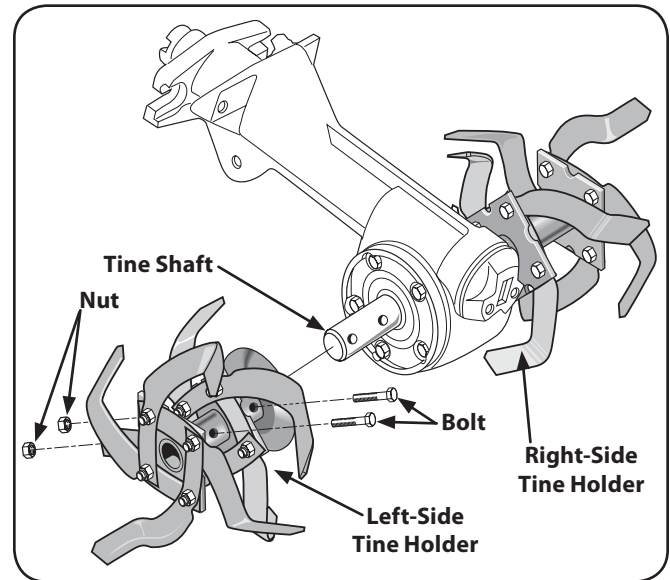

Figure 7-9
5. Use two $\frac{9}{16}$ " wrenches to remove the two bolts and nuts securing the tine to the tine holder plate. See Fig. 7-9. Use penetrating oil on the hardware if it is rusted or hard to remove.
3. Remove the two bolts and nuts securing each holder. See Fig. 7-9.